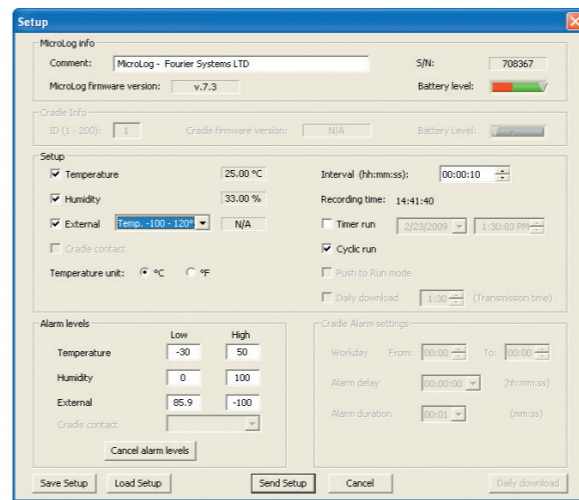

Fig. 2
4. In the Setup window, select the **External** checkbox and from the drop-down menu select **Temp. -50 to 100 °C** (see Fig. 2).